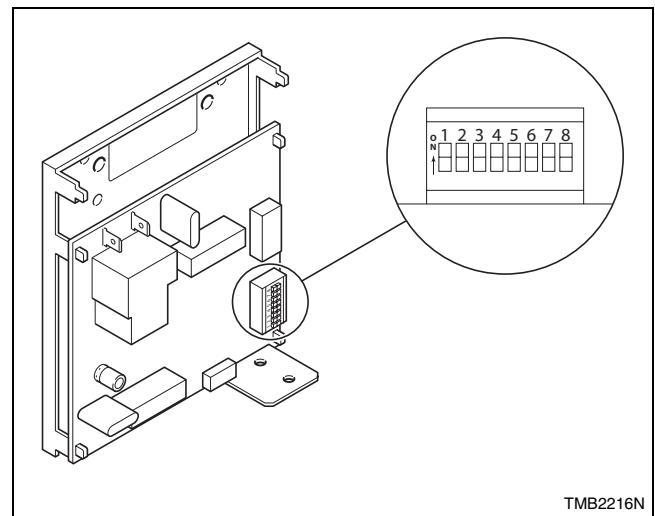

Figure 5
2. Write down machine control dip switch settings, then set them all to the off position. Refer to *Figure 5*.